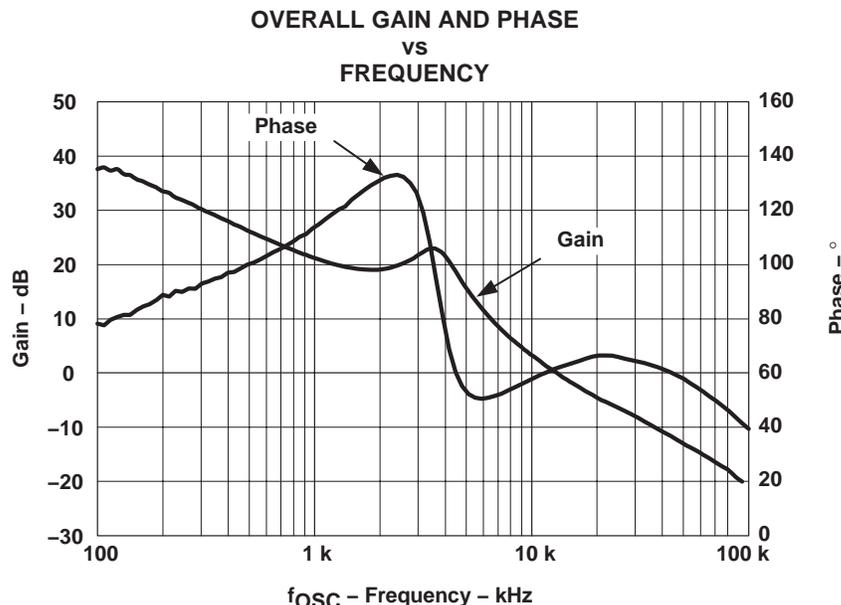

Figure 3. Unity gain crossover frequency of the TPS40050 converter
The unity gain crossover frequency was provided in the closed loop performance discussion of the TPS40051 based design user's guide(1) and shown in Figure 3. The crossover frequency,  $f_{CO(module)}$ , was measured to be 11 kHz.
The total load-share loop must be configured for a unity gain crossover frequency well before the crossover frequency of the module,  $f_{CO(\text{module})}$ , as shown in Figure 3. This is best accomplished by placing a zero in the error amplifier compensation at least one decade before the module's crossover frequency. Taking advantage of the relatively high crossover frequency of the module, this design places the zero at almost two decades before it, at 300 Hz. Compensation of the transconductance error amplifier is done by placing the compensation resistor,  $R_{EAO}$ , and capacitor,  $C_{EAO}$ , between EAO and GND. The values of these components are determined by the following loop gain equations and the closest available value components are used:
- $A_{PWR(f_{CO})}$  is the measured gain of the power module at the desired inserted zero frequency, 30 dB according to Figure 3 and converted from dB to 31.6 V/V.